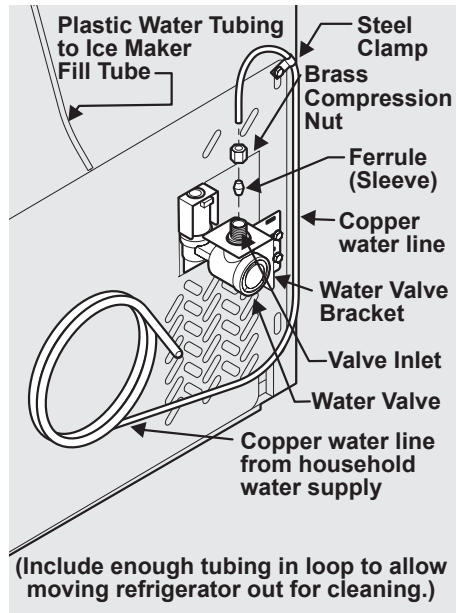

Figure 1
- 4 If you use copper tubing - Slide brass compression nut, then ferrule (sleeve) onto water supply line. Push water supply line into water valve inlet as far as it will go ( $\frac{1}{4}$  inch/6.4 mm). Slide ferrule (sleeve) into valve inlet and finger tighten compression nut onto valve. Tighten another half turn with a wrench; DO NOT over tighten. See Figure 1.